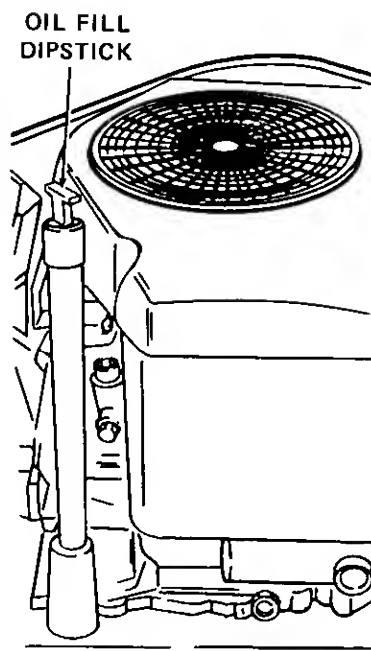

Figure 13
1. Check oil level. The oil fill and dipstick are located on the right rear side of the engine. (Refer to Figure 13.)